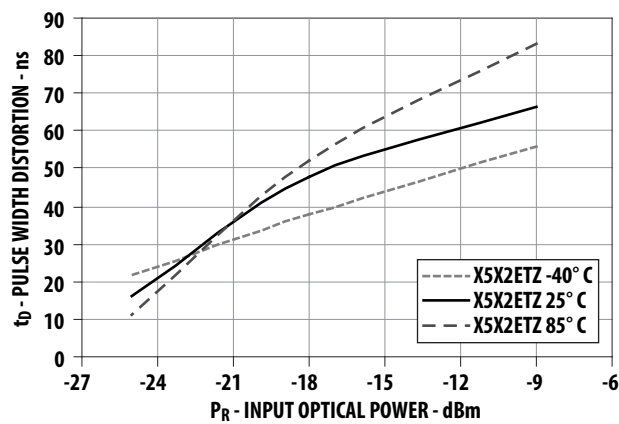

Figure 11. Typical link pulse width distortion vs. optical power
- The LED drive circuit of Figure 11 is required for 1 MBd operation of the HFBR-25X2ETZ.